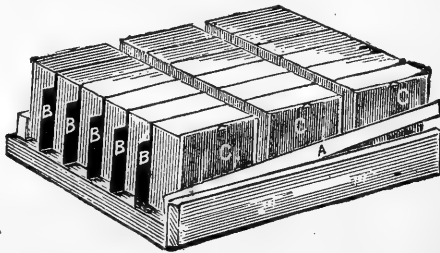
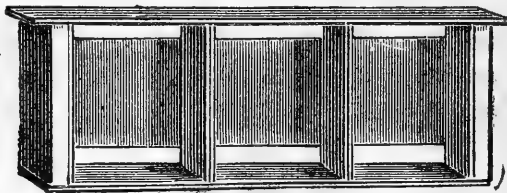

FIG. 14.—*Comb-Honey Rack.*
FIG. 18.—*Case of Prize Boxes for Langstroth Hive.*
The New Langstroth Hive is peculiarly adapted for the production of comb honey—its Honey Rack (Fig. 14) is the best in use, and perfectly adapted to the use of the Prize Boxes. It holds 18 Prize Boxes, with the separators between them, marked B B in the cut. The wedge (A) holds all with a vise-like grasp. The outer boxes are glassed (C C C) as they stand on the hive. By removing the wedge (A) any box may be instantly removed, examined, returned,
This case (Fig. 18) is made of  $\frac{1}{4}$  inch lumber, 2 inches wide, and holds three Prize Boxes. Such an arrangement must have a seven-inch story made for it, which may be lifted on and off the hive in one piece. It holds 21 Prize Boxes, and is used with success by many. Fig. 18 shows
Prize Boxes with a tight top-bar (2 inches wide) are used in the Comb-honey Rack, (Fig. 14) ; those used in Cases
(Fig. 18) have the top and bottom bars only  $1\frac{3}{4}$  inches wide—the Case being 2 inches in width, prevents any bees from going above it.
The above directions are for those used in Cases. (Fig. 18). Those with the tight top-bar, used in the Comb-honey Rack, (Fig. 14) have to be fastened with the tin points at the bottom, as before described, and at the top by having a tin point inserted outside of the glass.